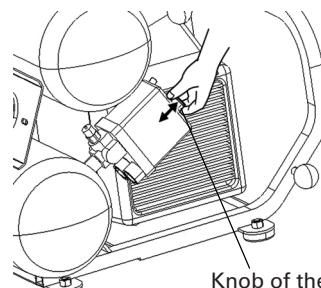
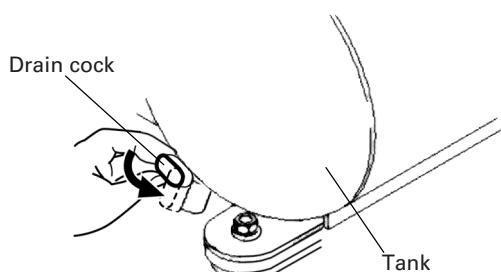
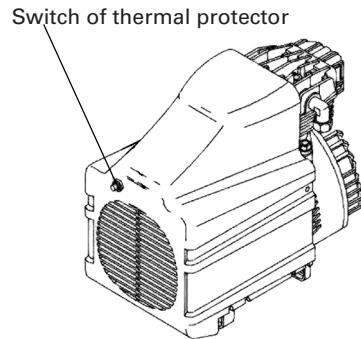

Fig. 2
Fig. 7
Fig. 8
Ensure that the knob of the pressure switch is in the "OFF" position (Fig. 2). If the plug is connected to a receptacle while the knob is in the "ON" position, the compressor will start operating immediately and can cause serious injury.
Insert the plug into the receptacle and start the compressor by pulling the knob of the pressure switch to "ON" (Refer to Fig. 2).
- (1) Push the knob of the pressure switch to "OFF" (Refer to Fig. 1 and Fig. 2).
- (2) Unplug the plug from power source.
- (3) Open the drain cock located at the lower part of the tank (Fig. 7).
- (1) Push the pressure switch knob to the "OFF" position and disconnect the plug from the receptacle (Fig. 2).
- (2) If the extension cord does not conform to the specifications given on page 7 replace with an extension cord such as that shown on page 7. If the capacity of the power supply is insufficient, increase the power supply capacity to remove the cause of a flow of excessive current (over-current).
- (3) Wait approximately 5 minutes, then press the reset switch of the thermal protector (Fig. 8).
- (4) Start up. If the motor still stops during operation, please contact the service center.
Drain tank daily or after 4 hours of use. Open drain fitting and tilt compressor to empty accumulated water (Refer to Fig. 7).